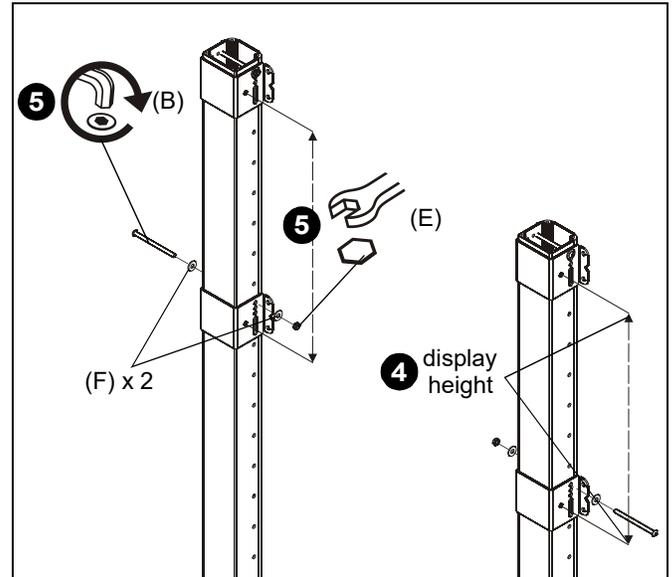

Figure 3
- Measure one screen height down from center point on installed clamp brackets to determine mounting location of lower clamp brackets. (See Figure 3)
- Use 5/16-18 x 4 1/2" button head cap screw (B), two 5/16" washers (F) and 5/16-18" lock nut (E) to install clamp brackets for lower displays with center diamond one screen height below center diamond of upper installed brackets. (See Figure 3)